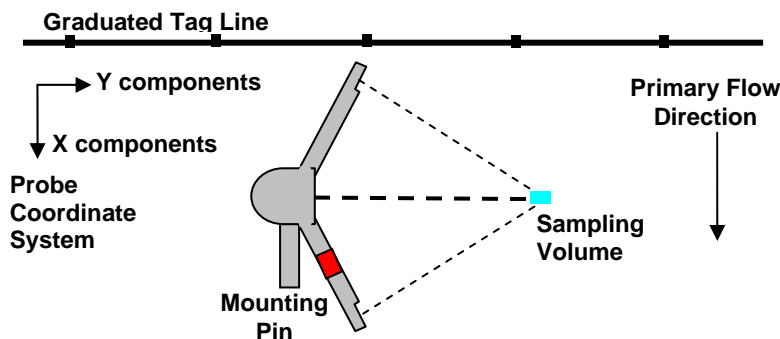

Figure 5. Orientation of probe along tag line (Sontek 2006)
- FlowTracker readings depend on the orientation of the probe. The pulse generated by the transmitter must be parallel to the tagline with the red-banded probe downstream from it (see Figure 5). It is not necessary for the operator to input a cosine correction for the flow angle since the FlowTracker measures and automatically accounts for any non-perpendicular flow. Large variations in flow angles may indicate misalignment of the probe or poor site selection. Any error in the probe orientation will impact discharge. A guide mounted on the wading rod may help to properly align the probe (see Figure 2).